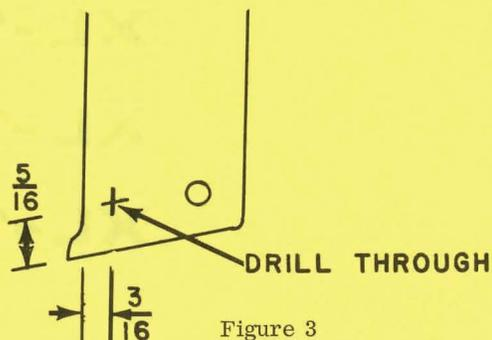

Figure 3
6. Lay the cover aside and locate the front and bottom outside edges of the reservoir on the recoil starter side. Refer to Figure 3 and measure $5/16$ " up from the bottom edge and $3/16$ " in from the front edge. Centerpunch this point and drill through the reservoir wall with a #19 drill.